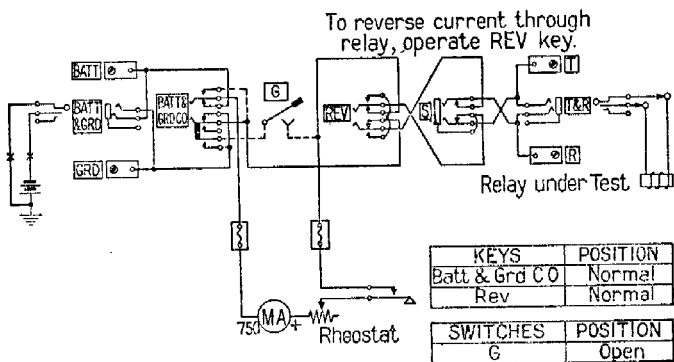

Fig. 1—Neither Battery Nor Ground on Relay Winding
3.1 Figures 1 to 4, inclusive, show typical test arrangements which can be obtained with the No. 35-C test set. The figures show how the patching is to be done and which keys must be operated for each arrangement. The dotted wiring in each case indicates the part of the test set wiring which is not used. It should be understood, however, that other test arrangements are possible, using the various jacks, binding posts and test cords in different combinations. If connection is made to the
3.2 Figure 1 shows the test arrangement where the relay has neither battery nor ground connected to its winding. The current through the relay may be reversed by operating the REV key. This is a necessary requirement when testing polarized relays.